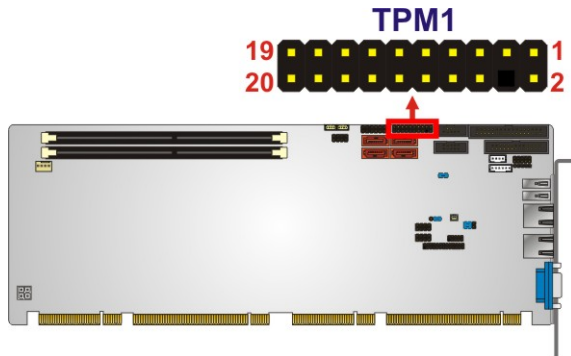

Figure 3-20: TPM Connector Location
- CN Location:** See **Figure 3-20**